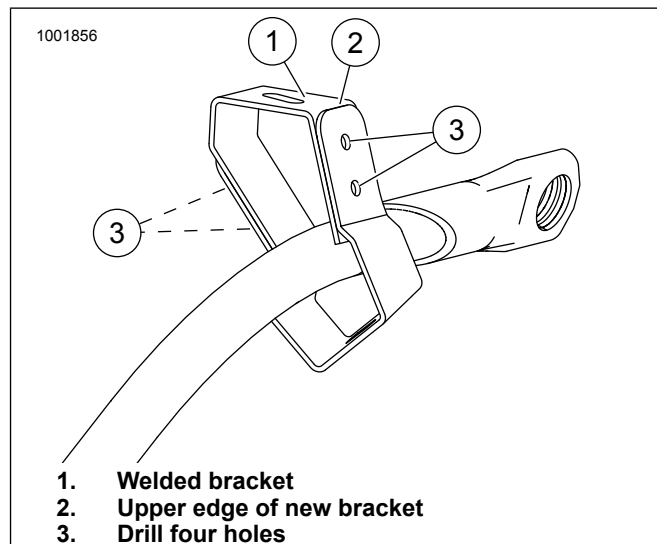

Figure 4. Locate New Bracket and Drill Holes
1. See Figure 4. Position the **new** steering damper bracket as shown.
- a. Position the upper edge (2) flush with the top of the welded bracket (1).
2. Drill four holes (3) using the "Q" drill. Apply cutting fluid as necessary.